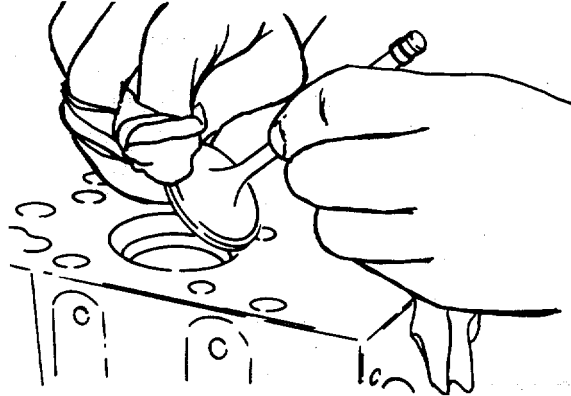

FIGURE 4-21. Clean Off Lapping Compound.
- (9) Remove the valves and clean lapping compound from the valves and seats. (FIGURE 4-21)